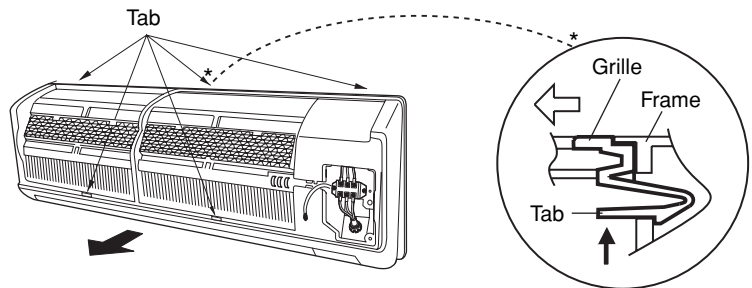

Fig. 18a
- (5) Pull the lower part of the grille toward you to remove. (Fig. 18a)
- (6) Use a standard screwdriver to push on the tabs to remove the grille.